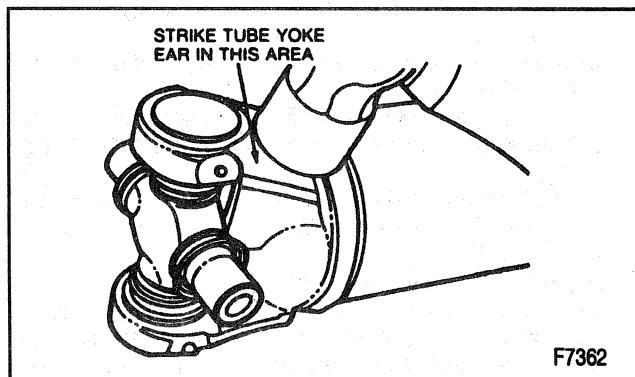

Figure 19—Seating the Universal Joint Snap Ring
- If the retainer is difficult to seat, the yoke can be sprung slightly with a firm blow from a dead blow hammer (Figure 19).